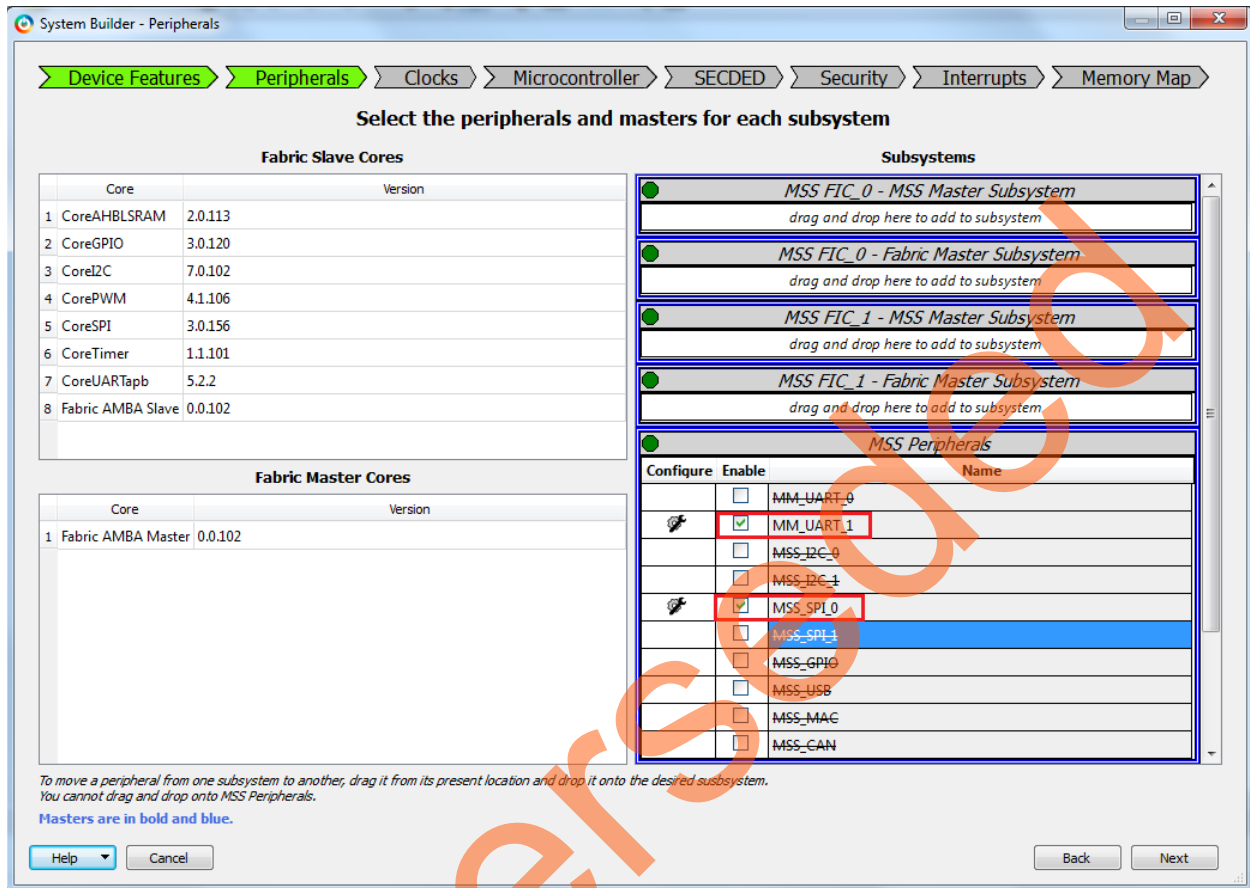

Figure 8 • System Builder Configurator – Select Peripherals Page
10. Click **Next**, the **System Builder – Peripherals** page is displayed. Under the MSS Peripherals section, Clear all the check boxes except **MM_UART_1** and **MSS_SPI_0**, as shown in Figure 8.